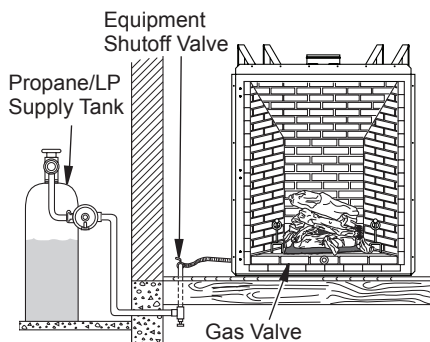
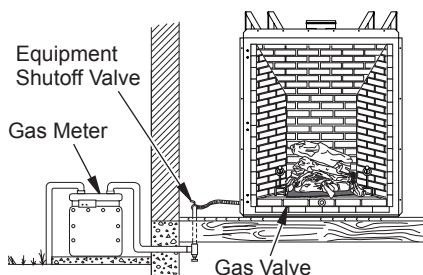

Figure 24 - Checking Gas Joints for Propane/LP Gas Fireplace
Figure 25 - Checking Gas Joints for Natural Gas Fireplace
3. Check all joints from propane/LP supply tank or gas meter to equipment shutoff valve (see Figure 24 or Figure 25, page 18). Apply noncorrosive leak detection fluid to all joints. Bubbles forming show a leak.
4. Check all joints from equipment shutoff valve to gas valve (see Figure 24 or Figure 25). Apply noncorrosive leak detection fluid to all joints. Bubbles forming show a leak. Correct all leaks at once.